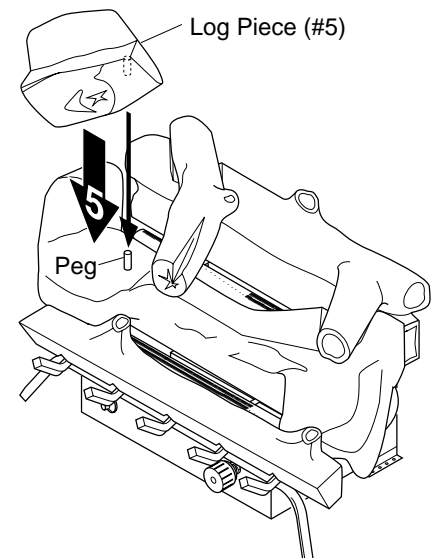

Figure 26 - Installing Log Piece (#5)
5. With knot to right side, place smaller log piece (#5) over the pin on the left side of the middle log. The smaller log will rest on front log against the "knot" on the left (see Figure 26).